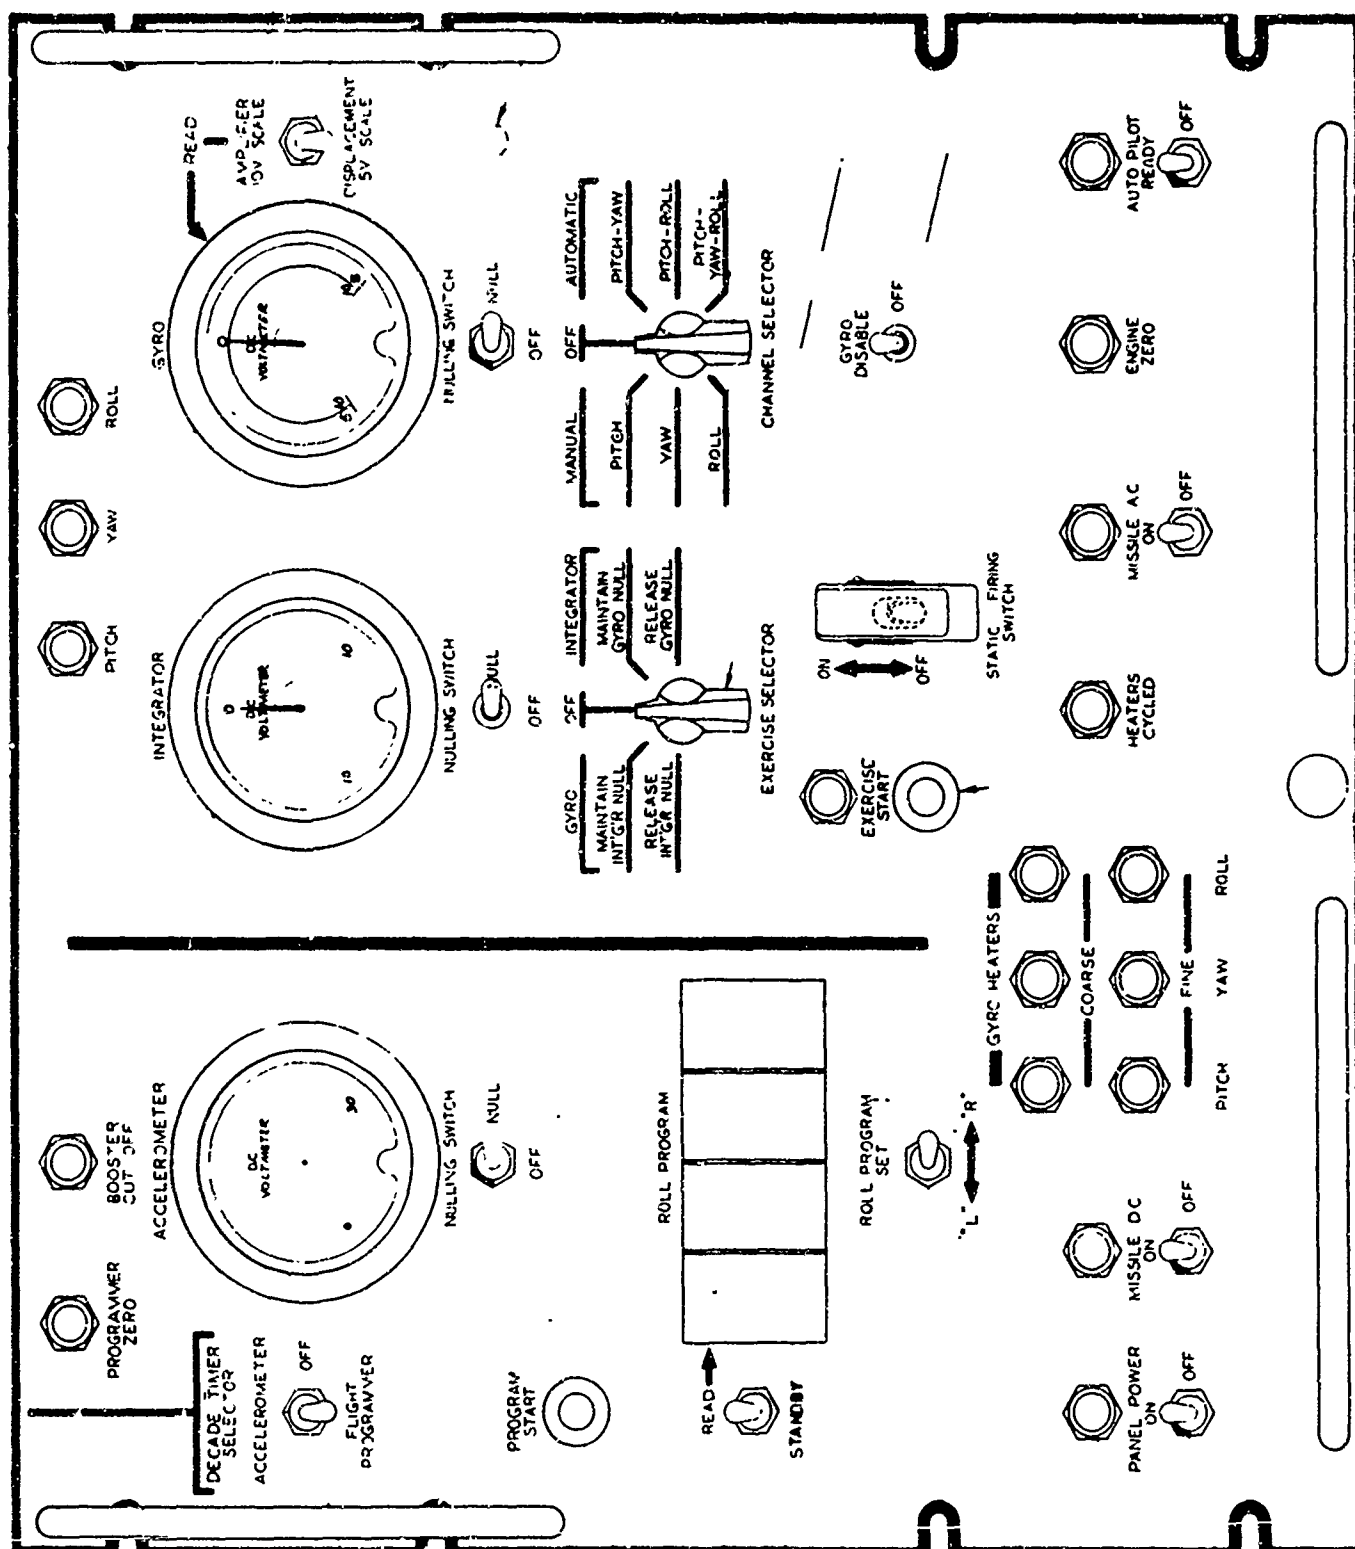

FIG. 5
(4) Counter Tubes
The six (6) counter tubes are Sylvania number 6802 type, or equivalent, and as shown in Figure 5, are arranged to count 100,000's, 10,000's, 1000's, 100's, 10's and UNITS, (reading from left to right on the panel).
(5) Starting Impulses
This panel is located directly below the Decade Event Timer Panel. Figure 5 shows the Autopilot Control Console Panel which consists of the following component parts: